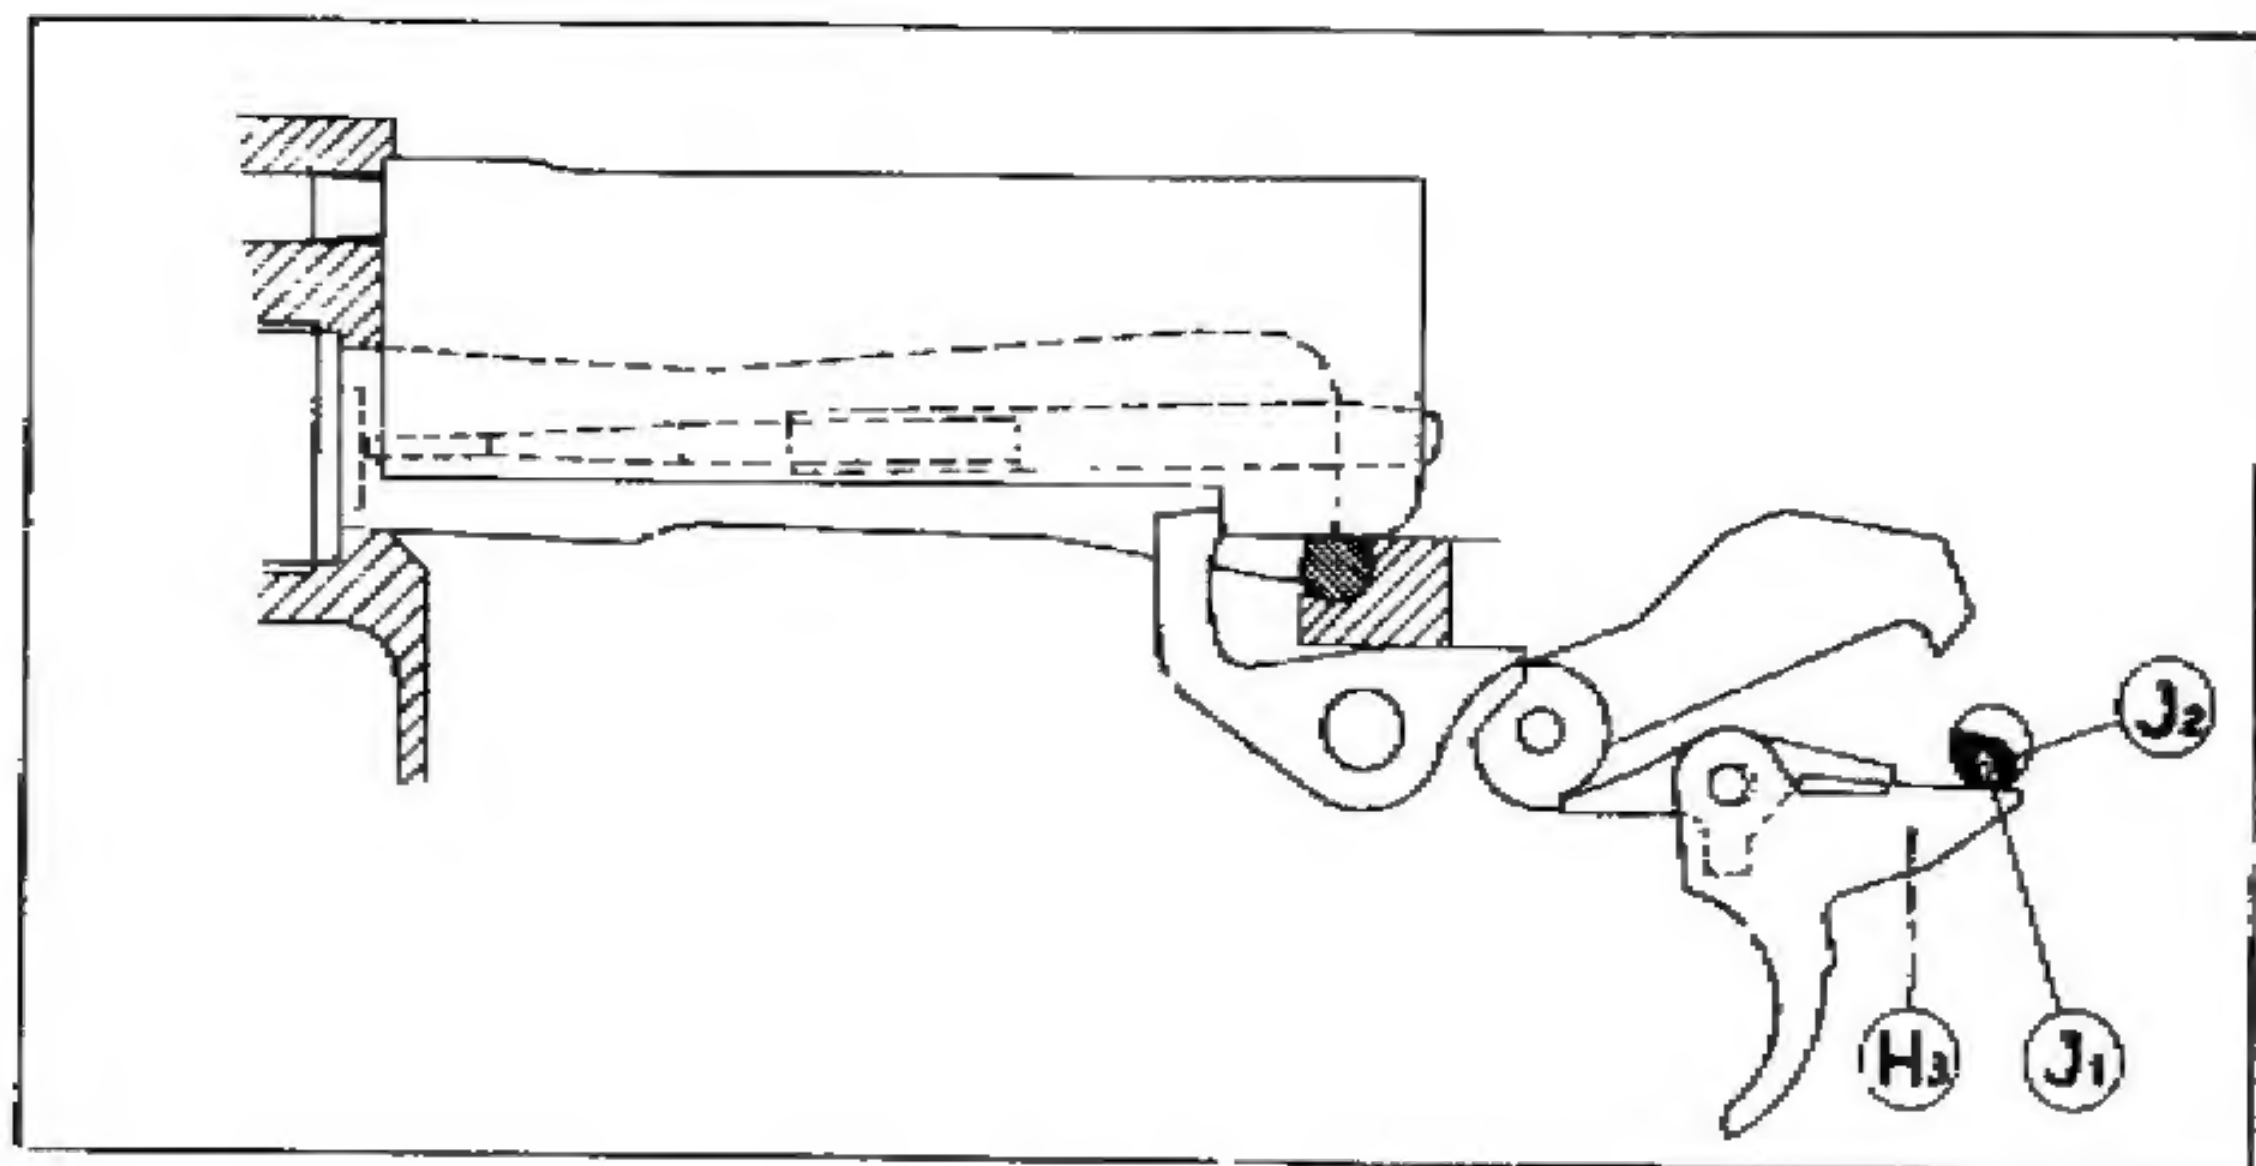

Fig. 14
- In this position, the rounded edge of the change lever axis (J1) (fig. 14) is over the rear part of the trigger (H3), preventing it from rising to engage the tail of the sear.